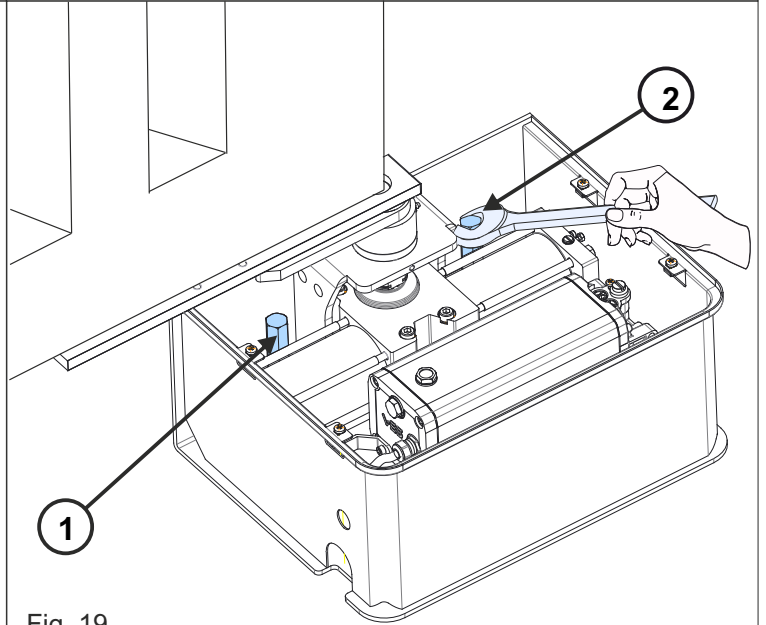

Fig. 19
5.4. Secure the operator by acting on the screws «1» and «2» as shown in Fig. 19